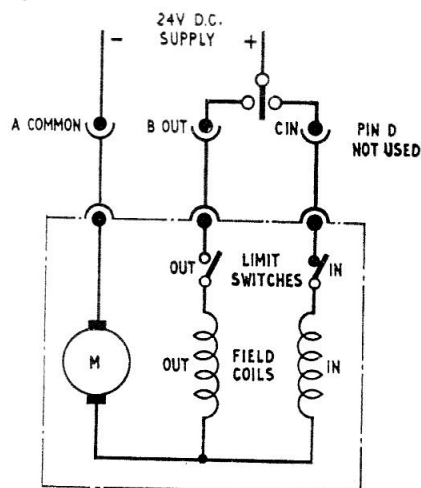

Fig. 2. Internal wiring diagram
7. The internal wiring (fig. 2) of the actuator is brought out to a 4-pole Breeze plug mounted on an elbow of the gear casing. A cable assembly is connected to the Breeze plug and both ends of the cable have Breeze sockets attached.